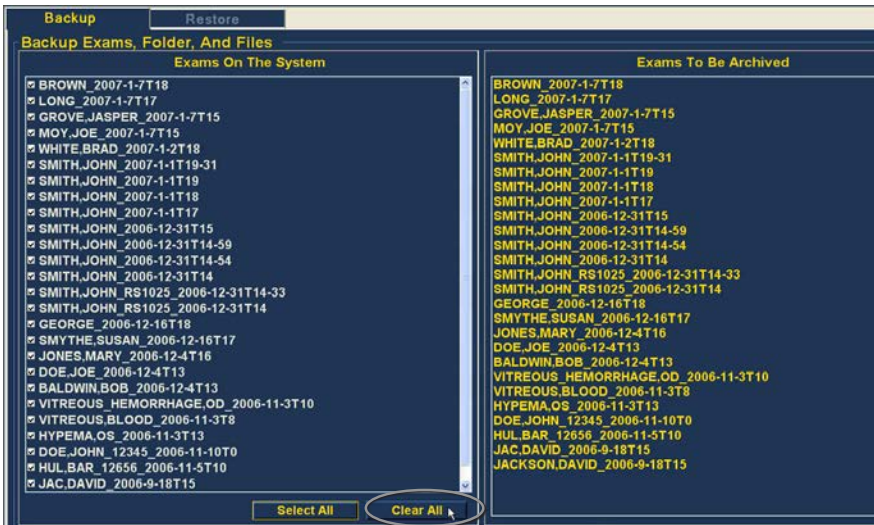

Figure 8.6 - All Exams Displayed - Clear All
- 1. Click "Select All" as shown in Figure 8.5. All system exams will be displayed in the "Exams To Be Archived" section of the screen as shown in Figure 8.6.